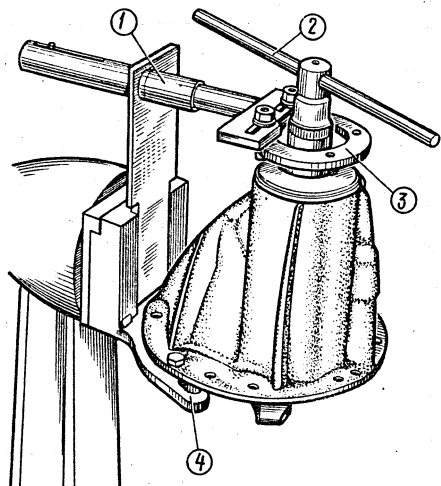

Fig. 3-62. Removing the Pinion Nut:
- turn the final drive housing with the throat up (Fig. 3-62) and unscrew the flange nut with wrench 2, holding drive pinion flange 3 with retainer 1;